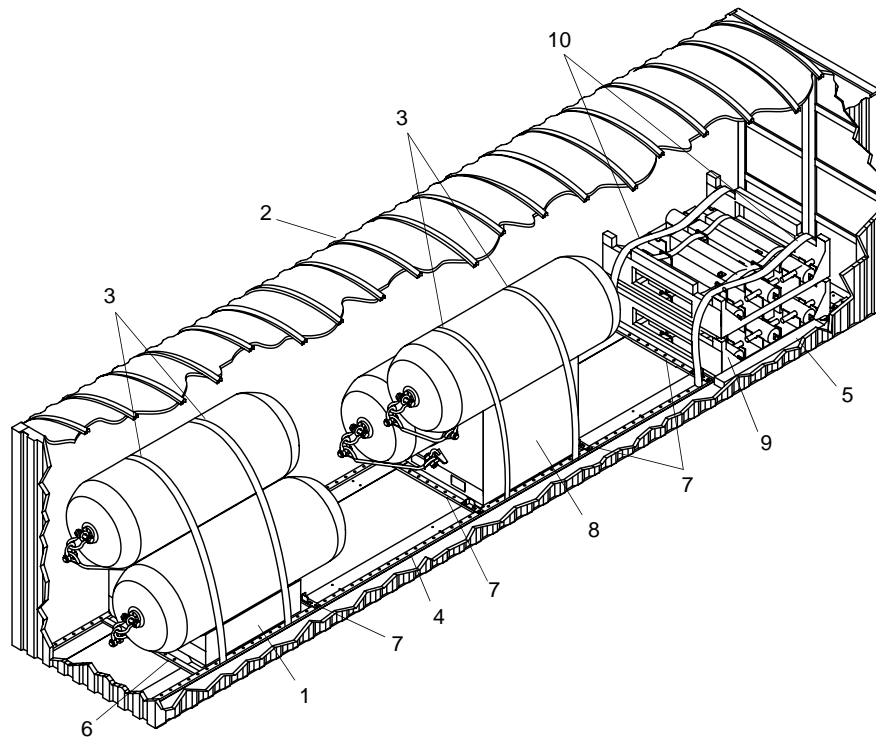

Figure 10. 4 ft by 12 ft Fender & Mooring Bitt Container
7. Using forklift, position first empty fender pallet (figure 10, item 1) in container (figure 10, item 2) so that fenders will clear center ceiling bow when placed on pallet.
8. Attach one end of two tie down straps (figure 10, item 3) to one side of the floor track (figure 10, item 4), at the first fender pallet (figure 10, item 1) position. Place straps out of the way for loading.
13. Using forklift and push-pull rod (figure 10, item 5), push fender pallet (figure 10, item 1) to rear of container (figure 10, item 2) and against fixed track stop (figure 10, item 6).
14. Pull two tie down straps (figure 10, item 3) over fenders and pallet (figure 10, item 1) and attach free ends to opposite floor track (figure 10, item 4). Tighten straps (figure 10, item 3).
15. Install a track stop (figure 10, item 7) in front of first pallet (figure 10, item 1). (WP 0007 00)
16. Install a track stop (figure 10, item 7) at the red marks for second fender pallet (figure 10, item 8). (WP 0007 00)
17. Attach one end of two tie down straps (figure 10, item 3) to one side of the floor track (figure 10, item 4), at the second fender pallet (figure 10, item 8) position. Place straps out of the way for loading.
The fender pallets must be oriented in opposite directions as shown in figure 10. Failure to comply will cause the container to be unbalanced when lifted, which may result in the serious injury, death, or equipment damage.
18. Using forklift, position second fender pallet (figure 10, item 8) inside container (figure 10, item 2) doors, oriented in opposite direction of first fender pallet (figure 10, item 1).
19. Repeat step 9 through step 12 for remaining fenders and second pallet (figure 10, item 8).
20. Using forklift and push-pull rod (figure 10, item 5), push second fender pallet (figure 10, item 8) to rear of container (figure 10, item 2) and against track stop (figure 10, item 7).
21. Pull two tie down straps (figure 10, item 3) over fenders and pallet (figure 10, item 8) and attach free ends to opposite floor track (figure 10, item 4). Tighten straps (figure 10, item 3).
22. Install a track stop (figure 10, item 7) in front of second pallet (figure 10, item 8). (WP 0007 00)
23. Install a track stop (figure 10, item 7) at the red marks for mooring bitt pallets (figure 10, item 9). (WP 0007 00)
24. Secure push-pull rod (figure 10, item 5) to side of container (figure 10, item 2) using a tie down strap attached to container corner cleats.
32. Attach one end of two tie down straps (figure 10, item 10) to each floor track (figure 10, item 4), at mooring bitt pallets (figure 10, item 9) position. Place straps out of the way for loading.
33. Using forklift, position mooring bitt pallets (figure 10, item 9) inside container (figure 10, item 2) and against track stop (figure 10, item 7).
34. Install a track stop (figure 10, item 7) in front of mooring bitt pallets (figure 10, item 9). (WP 0007 00)
35. Pull two tie down straps (figure 10, item 10) through fork openings in upper pallet and attach free ends to floor tracks (figure 10, item 4). Tighten straps (figure 10, item 3).